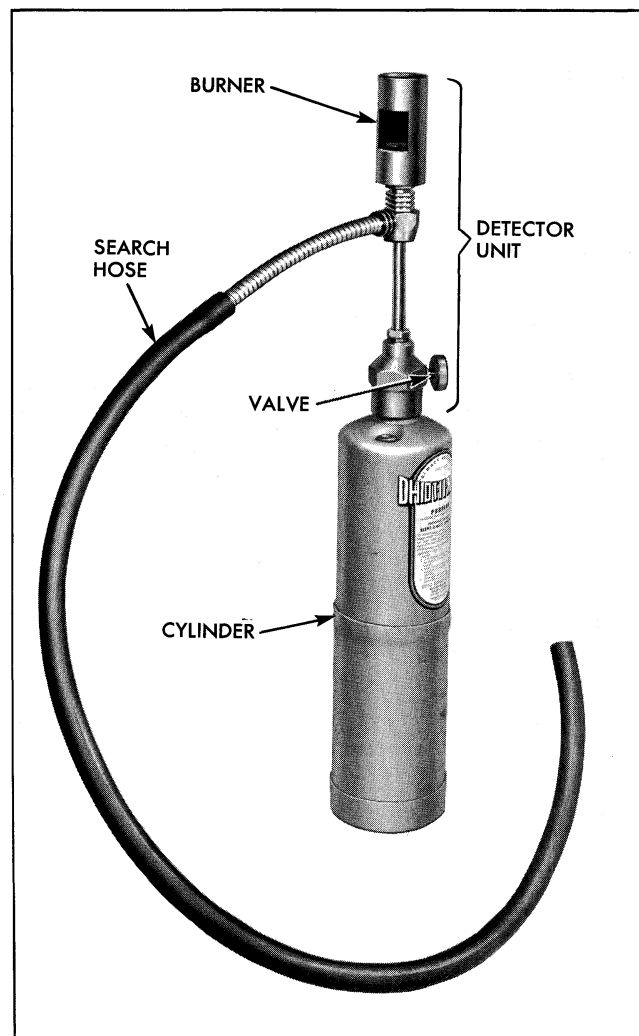

Fig. 1-4 J-6084 Leak Detector
4. Attach search hose assembly to detector unit (Fig. 1-4).